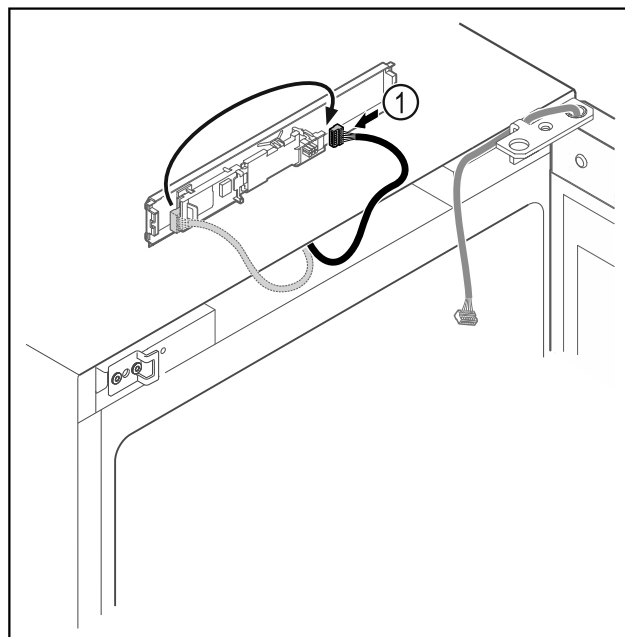

Fig. 14
- Connect the plug Fig. 14 (1) to the circuit board.